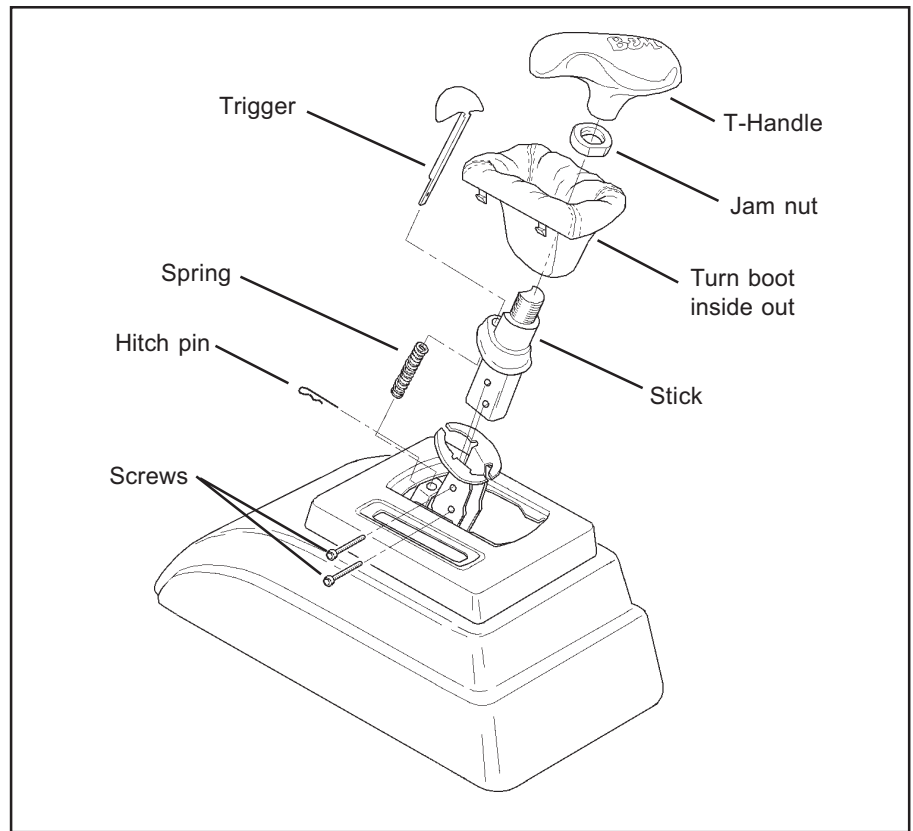

Figure 12
STEP 31. Remove the stick and trigger from the shifter. Remove the two screws that secure the stick to the shifter and remove the hitch pin that secures the trigger to the mechanism. See **figure 12**. Install the leather boot. Turn the boot inside out and slide it over the bottom of the stick. Put the stick back in place on top of the mechanism, reinstall the two screws and tighten. Slide the trigger back through the stick and the steel trigger plate on the shifter. Reinstall the hitch pin. Pliers are the best tool for this installation.